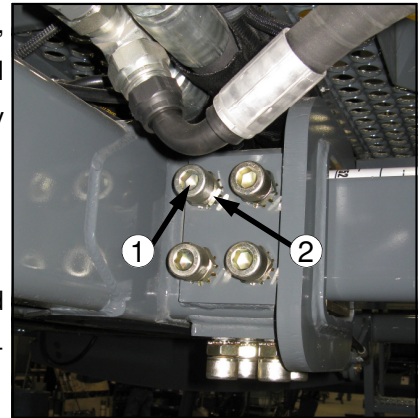

FIG 98-1
**HYDRAULIC TREAD ADJUST UNITS**— With the engine turned off, visually inspect the tread bearing bolts on both the bottom and side tread adjust bearing plates (fig. 98-1) every 50 hours. Torque check them every 100 hours.
1. Loosen the jam nut (fig. 98-1, item 2) on each tread adjust bearing bolt.